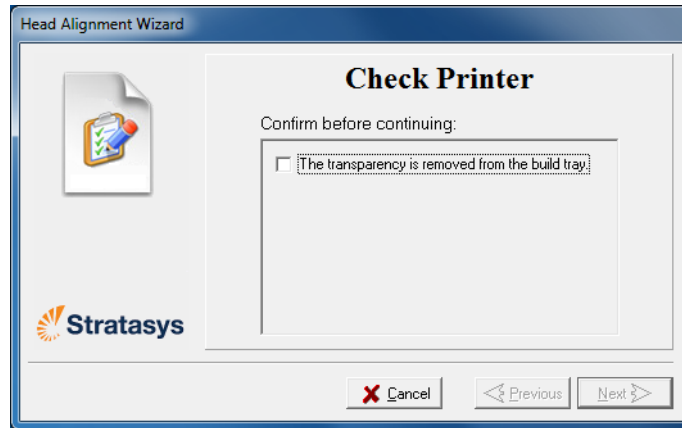

Figure 6-44: Head Alignment wizard—steps 8–10
10. In the wizard screen shown in figure 6-44, select the *Transparency removed* check box, and click Next.